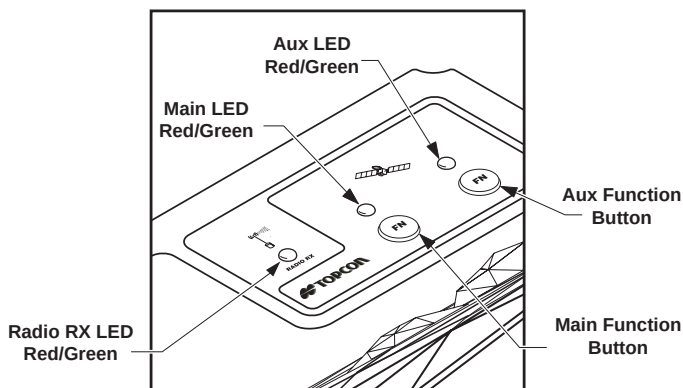

Figure 2-25. MC-2.5 GPS Receiver Box Indicators
Three LED indicators on the MC-2.5 GPS Receiver Box provide status on power, satellites, and radio signal (Figure 2-25). Two function (FN) buttons provide diagnostic and reset for the internal receiver boards.